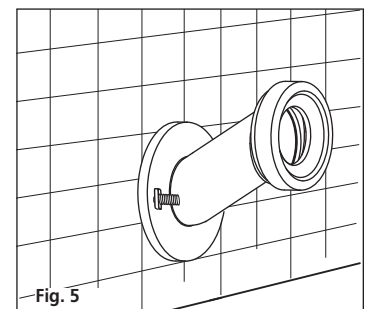

Fig. 5
- 3- Position rear outlet adaptor onto 'T' bolts and secure onto wax seal with nuts as detailed in **Fig. 5**.